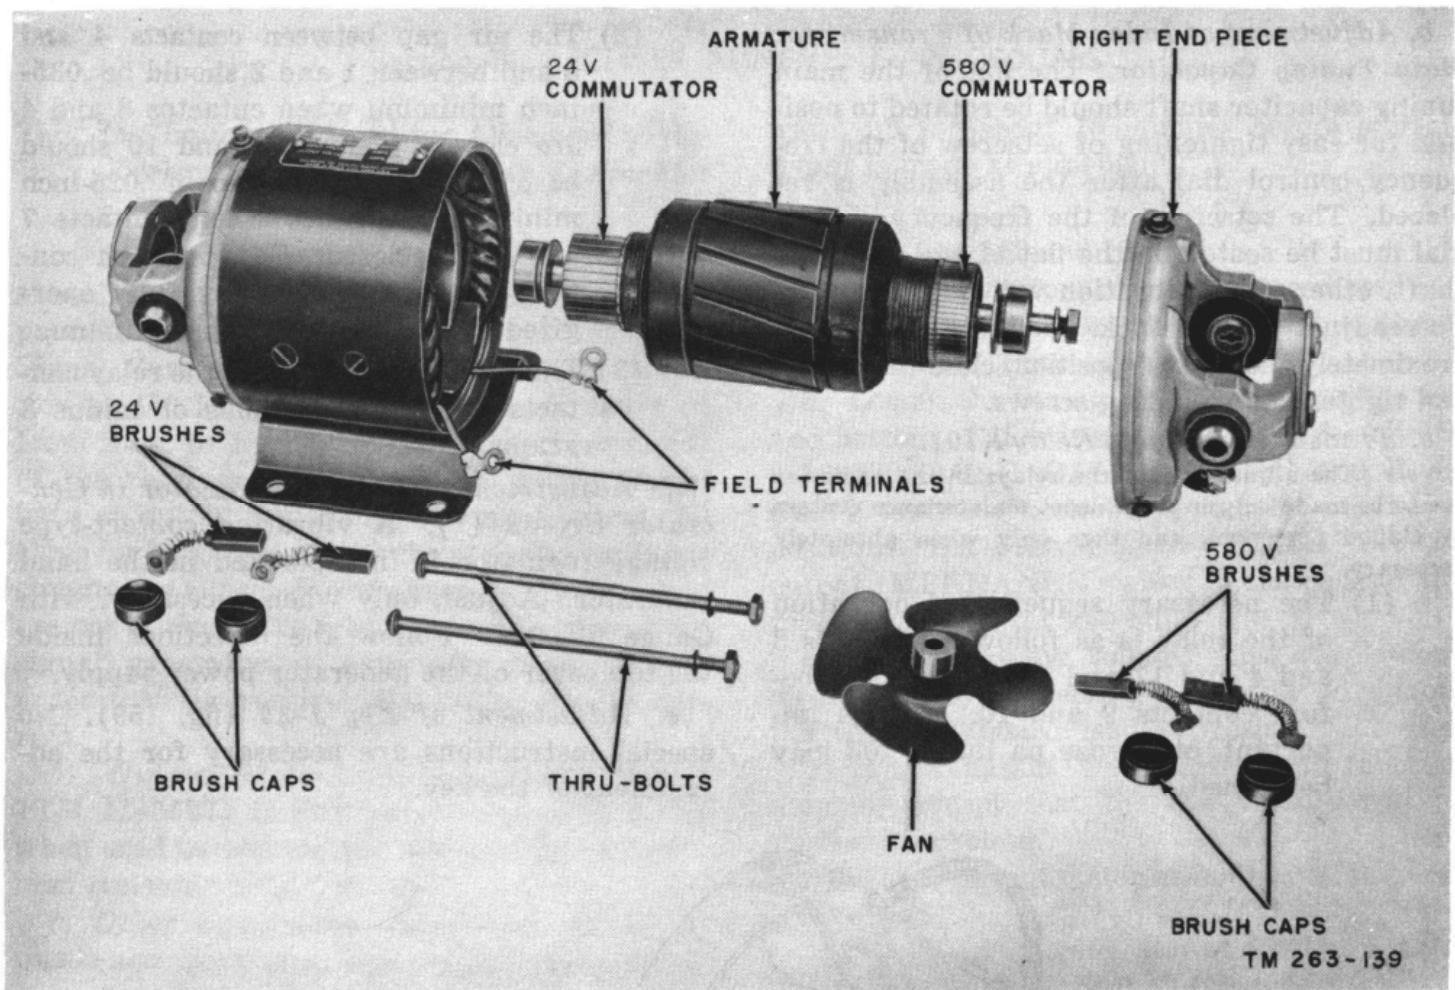

Figure 157. Armature removed from Dynamotor-Power Supply DY-105/GRC-9X.
- d. Refer to figure 157 for the remainder of the dynamotor disassembly procedure.
- (1) Remove the dynamotor and covers by loosening the screw at the top of each cover and rotating and pulling the cover off.
- (2) Unscrew the brush caps and remove the brushes.
- (3) Disconnect the two field terminals connected to the 580-volt brush holders.
- (4) Remove the nut and lock washer that holds the fan to the shaft and remove the fan.
- (5) Remove the top and bottom through-bolts.
- (6) Remove the right endpiece.
- (7) The armature may now be pulled out gently through the dynamotor unit.